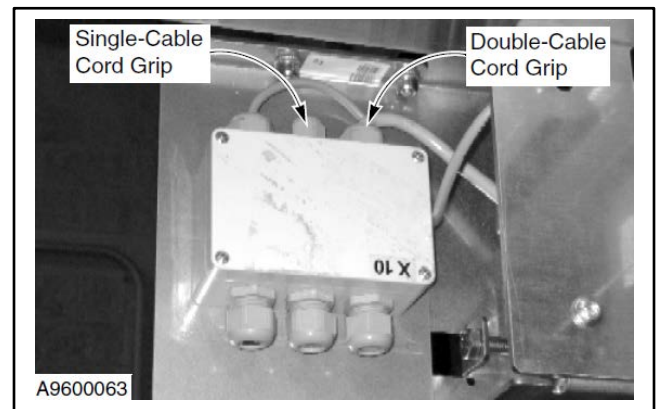

**Figure 81**
1. Route the brake release sensor cable, leading from the motor junction box, to the control panel. (See Figure 81.)